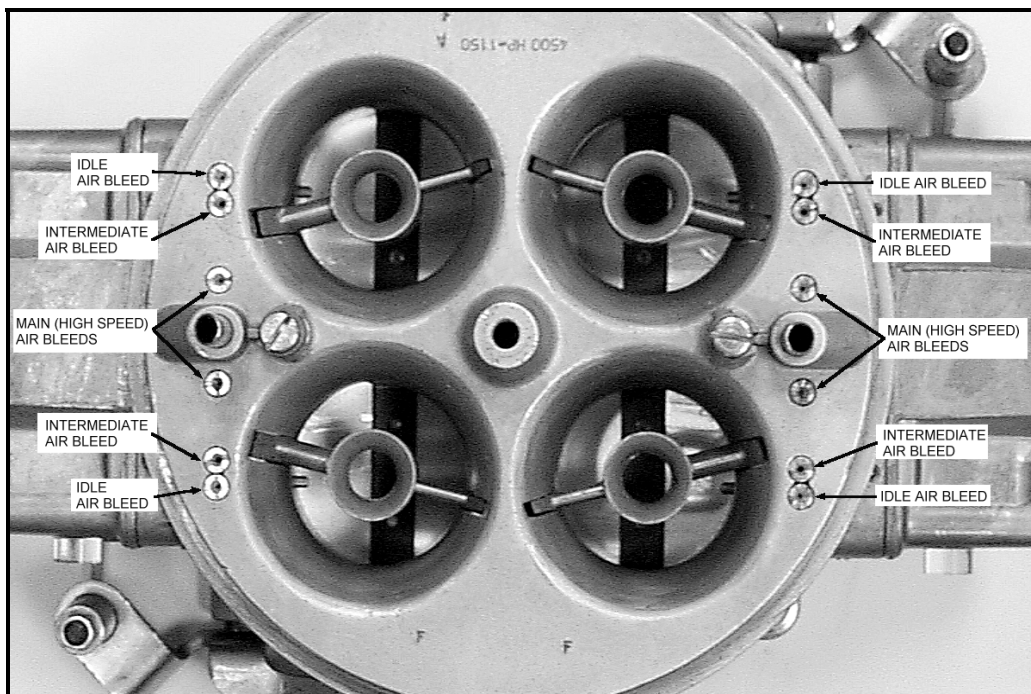

Figure 10
**WARNING!** AIR BLEED SIZES SHOULD NOT BE ADJUSTED MORE THAN SIX (6) SIZES IN ANY ONE DIRECTION FROM THE ORIGINAL AIR BLEEDS AS SHIPPED FROM HOLLEY. AIR BLEED ADJUSTMENT BEYOND SIX (6) SIZES COULD RESULT IN A LEAN ENGINE, CAUSING SEVERE ENGINE DAMAGE, PROPERTY DAMAGE, SERIOUS INJURY, AND/OR DEATH.
**NOTE:** See Figure 10 for air bleed locations and identification. It is recommended that all jet sizes be documented before any tuning of the air bleeds or main jets is started. Below is a chart for recording the jet and air bleed sizes for your 4500 HP Dominator carburetor as shipped from Holley. Should you adjust the air bleed size or main jet size, this chart will allow the tuner to return the carburetor to the original jetting. Please place this information in a safe place along with any other documentation for your carburetor.